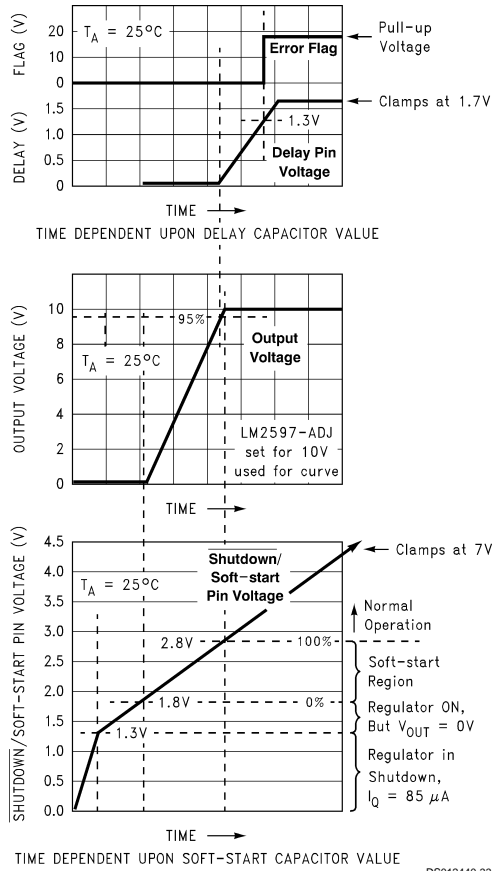
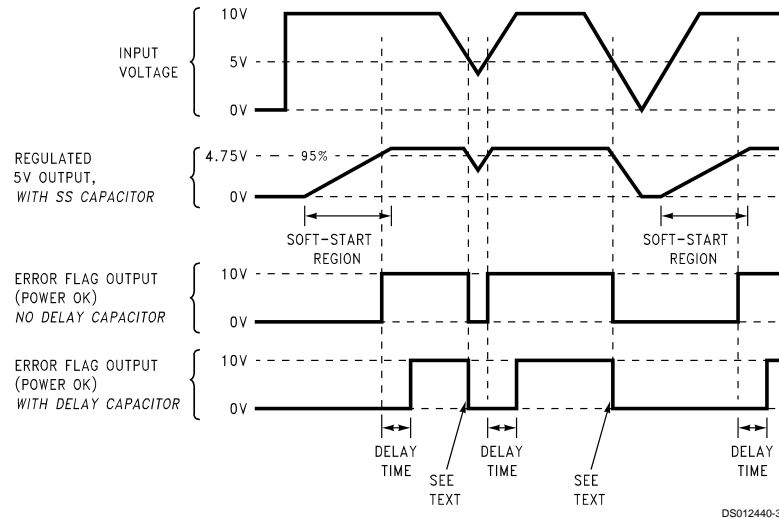

FIGURE 13. Soft-start, Delay, Error, Output
FIGURE 14. Timing Diagram for 5V Output
C_{SS} — A capacitor on this pin provides the regulator with a Soft-start feature (slow start-up). When the DC input voltage is first applied to the regulator, or when the Shutdown /Soft-start pin is allowed to go high, a constant current (approximately $5\ \mu A$) begins charging this capacitor). As the capacitor voltage rises, the regulator goes through four operating regions (See the bottom curve in *Figure 13*).
3. Soft-start Region. When the \overline{SD} /SS pin voltage is between $1.8V$ and $2.8V$ ($@\ 25^\circ C$), the regulator is in a Soft-start condition. The switch (Pin 8) duty cycle initially starts out very low, with narrow pulses and gradually get wider as the capacitor \overline{SD} /SS pin ramps up towards $2.8V$. As the duty cycle increases, the output voltage also increases at a controlled ramp up. See the center curve in *Figure 13*. The input supply current requirement also starts out at a low level for the narrow pulses and ramp up in a controlled manner. This is a very useful feature in some switcher topologies that require large startup currents (such as the inverting configuration) which can load down the input power supply.
Note: The lower curve shown in *Figure 13* shows the Soft-start region from 0% to 100% . This is not the duty cycle percentage, but the output voltage percentage. Also, the Soft-start voltage range has a negative temperature coefficient associated with it. See the Soft-start curve in the electrical characteristics section.
C_{DELAY} — Provides delay for the error flag output. See the upper curve in Figure 13, and also refer to timing diagrams in Figure 14. A capacitor on this pin provides a time delay between the time the regulated output voltage (when it is increasing in value) reaches 95% of the nominal output voltage, and the time the error flag output goes high. A 3 μA constant current from the delay pin charges the delay capacitor resulting in a voltage ramp. When this voltage reaches a threshold of approximately 1.3V, the open collector error flag output (or power OK) goes high. This signal can be used to indicate that the regulated output has reached the correct voltage and has stabilized.